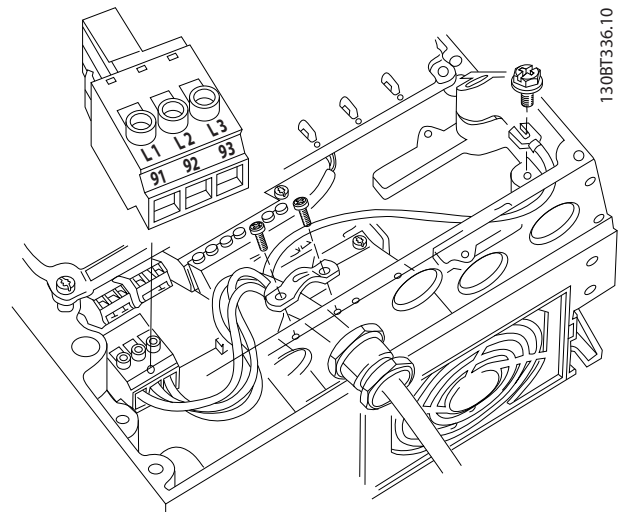

Figure 2.16 Connecting to AC Line Power
- Connect 3-phase AC input power wiring to terminals L1, L2, and L3 (see Figure 2.16).